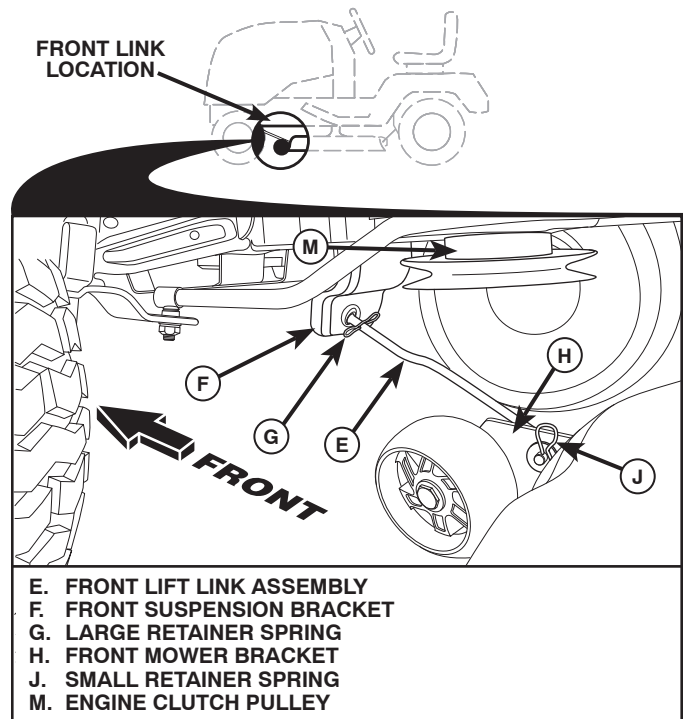

Fig. 32
## 8 ATTACH FRONT LINK (E) (See Fig. 32)
- From front of tractor, insert rod end of front link (E) through front hole in tractor front suspension bracket (F).
- Move to left side of mower and insert large retainer spring (G) through hole in front link (E) behind front suspension bracket (F).
- Insert other end of link (E) into hole in front mower bracket (H) and secure with washer and small retainer spring (J).